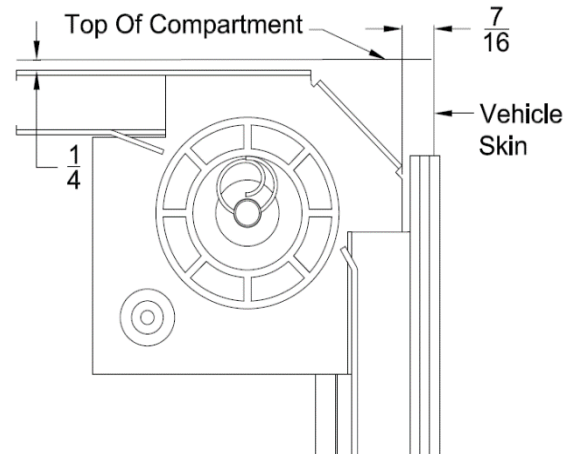

Fig. 1
- a) Looking into the compartment, place the pennant plate right hand pennant plate label in the top right of the compartment as shown in Fig. 1. Make sure it is $\frac{1}{4}$ " from the top of the compartment and $1\text{-}\frac{5}{8}$ " from the vehicle skin. Match drill the plate and track with an $\frac{11}{64}$ " drill.